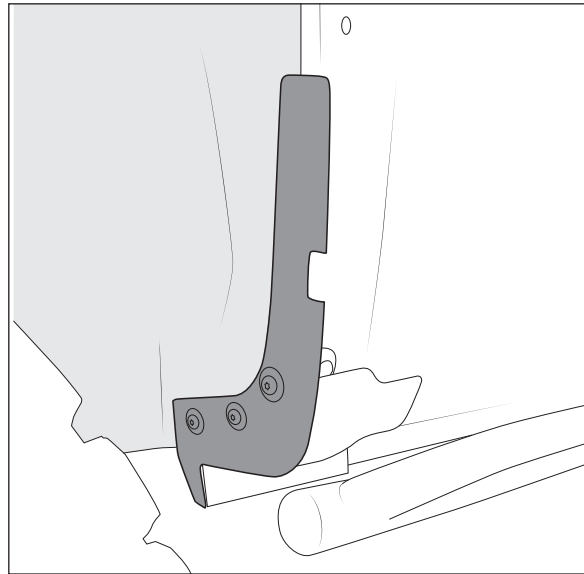

Figure 7
2. Install the plastic closeout panel, sandwiching the fabric liner between it and the bracket (fig. 7).